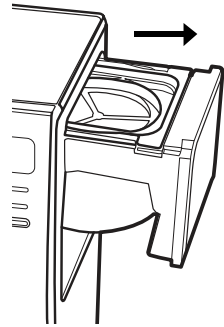

Figure 4
1. Open the brew basket drawer (Figure 4).